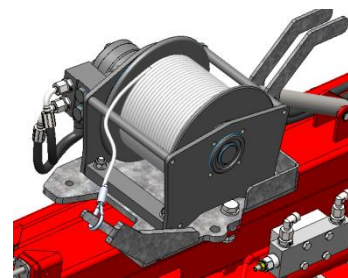

Figure: 39
- When the winch is not being used, attach the loop of the winch cable to the hook provided for this purpose on the winch (see figure 39).